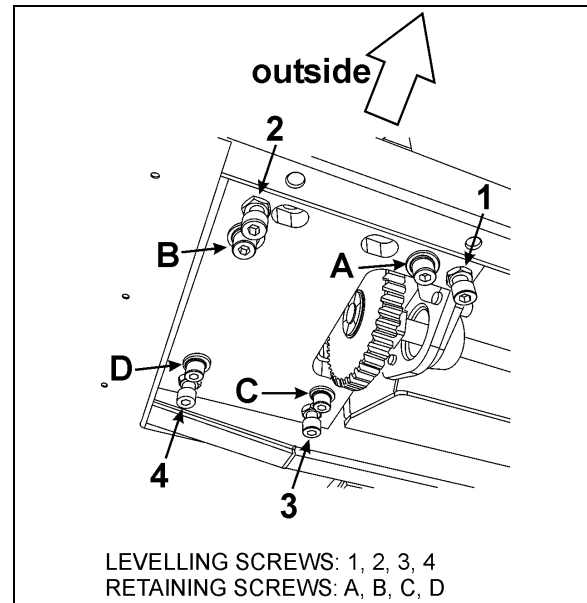
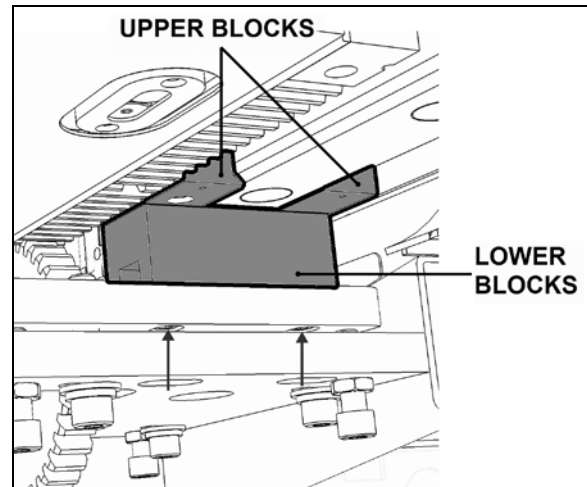

FIGURE 27: SLIDE-OUT LEVELING
FIGURE 30: ACETAL PLASTIC BLOCKS
4. From the mechanism access panel, remove the retaining screws A, B, C & D (see Figure 27).
Leveling of the slide-out is done by changing the linear bearing support plate height using the leveling screws 1, 2, 3, 4 (Figure 27). When proper level is attained, the retaining screws A, B, C & D maintain the support plate seated on the leveling screws. Also, the retaining screws prevent the slide-out from tipping inside the vehicle when it is retracted.
The slide-out is slightly tilted. When retracting, the upper "in limit" stoppers touch first the vehicle structure, followed by the lower "in limit" stoppers. Tilt adjustment is done by changing the linear bearing support plate inclination using the leveling screws 1 & 2 as pivot and 3 to adjust the angle (Figure 27).
2. From under the support plate, remove the acetal plastic block mounting screws (see the oblong holes on Figure 27 and arrows, Figure 30).